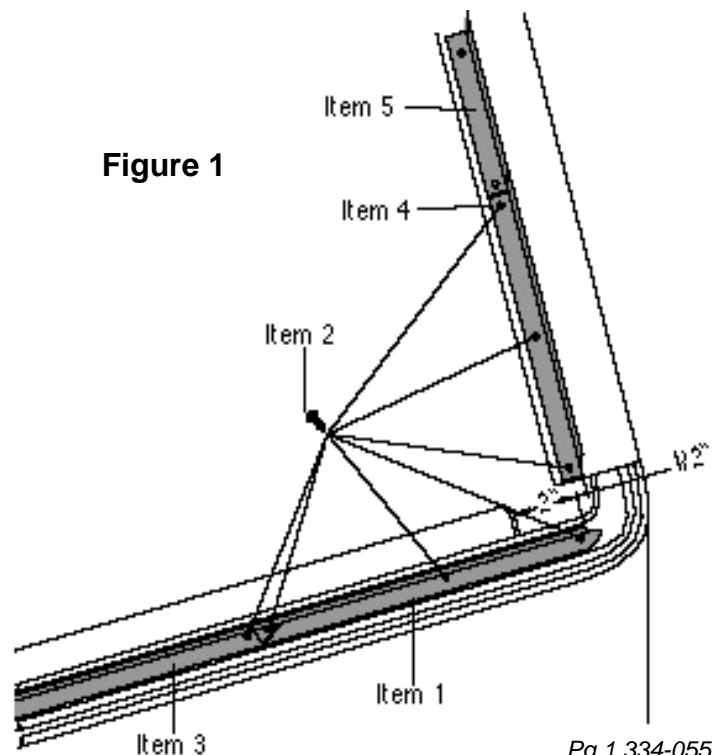

Figure 1
Butt both pieces of tailgate aluminum (Items 4 & 5) together on top edge of tailgate. Center from left to right and 1/2" from the rear of the body aluminum to the rear edge of tailgate aluminum. Making sure that tailgate aluminum is parallel with tailgate, mark and drill 1/8" holes using tailgate aluminum as a template. Secure to tailgate with #10 x 1/2" sheet metal screws (Item 2). See figure 1.
Step 1. Body Aluminum. Locate rear body aluminum (Item 1) just outside slight drop in body edge and 2" to the rear of notch in body. The body aluminum should be on the same surface level as the tailgate. Using body aluminum as a template, mark and drill 1/8" holes. Secure to body with #10 x 1/2" sheet metal screws (Item 2). Butt front body aluminum (Item 3) up to rear body aluminum. Mark and drill 1/8" holes using front body aluminum as a template. Secure to body with #10 x 1/2" sheet metal screws (Item 2). The last sheet metal screw will be installed on the vertical edge at bottom rear of cab. See figures 1 and 2.